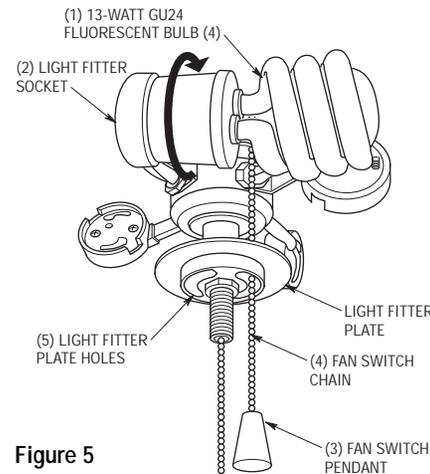

Figure 5
- Carefully position one of the GU24 fluorescent bulbs(1) (supplied) into the light fitter socket. Twist the bulb clockwise, approximately 1/16 turn, to engage the bulbs pins into the light fitter socket holes(2) (Figure 5). Install the remaining three GU24 fluorescent bulbs in the same manner.
- Remove the fan switch pendant(3) from the fan switch chain(4) for installation of glass. Place the fan switch chain through the light fitter plate(5) hole (Figure 5).